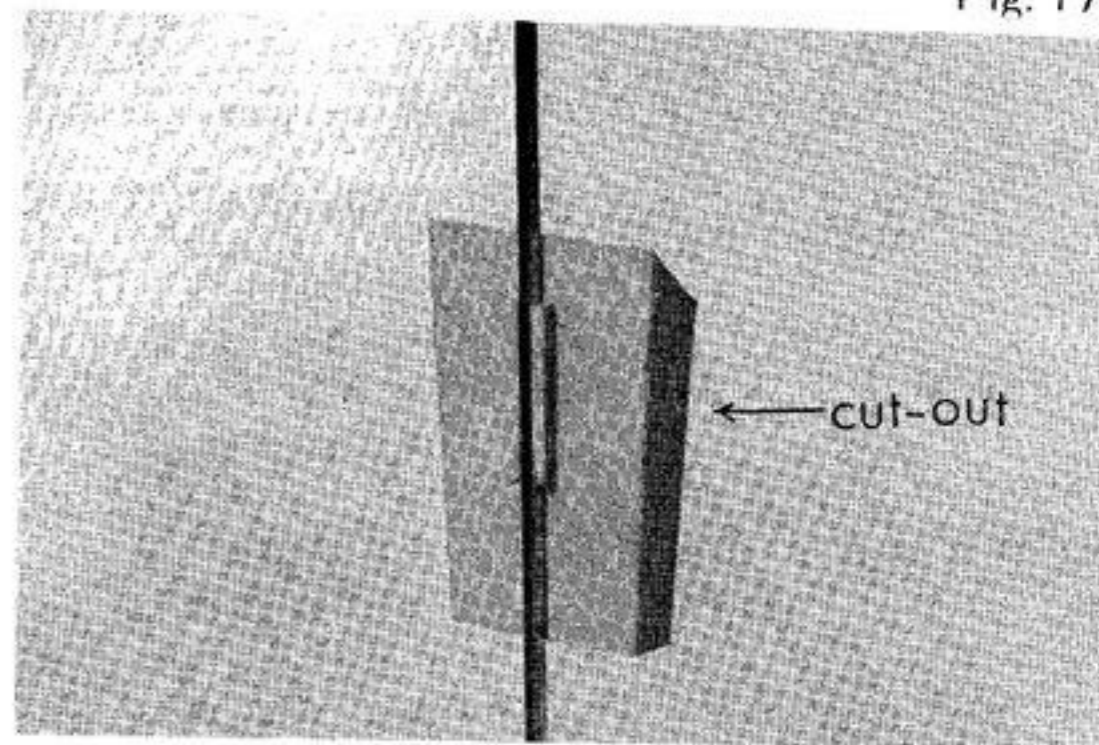

Fig. 18
13. Press-fit Plastic Hand Tool Holder to the rod at a convenient height. (Fig. 18)
Note : The cut-outs, to be found on both sides of the Hand Tool Holder (see Fig. 18) may be used for temporarily holding the loose end of that colour which is not at present in the feeder.